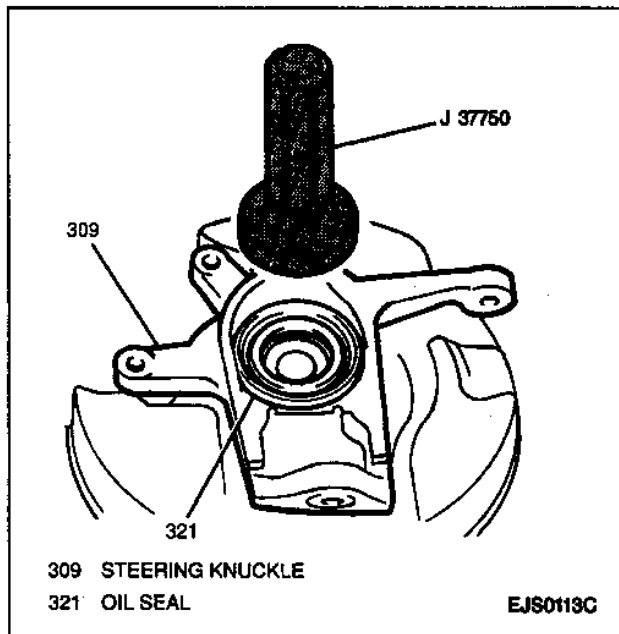

Figure 11—Installing Steering Knuckle Oil Seal
1. New oil seal to steering knuckle using a J 37750 (Figure 11).